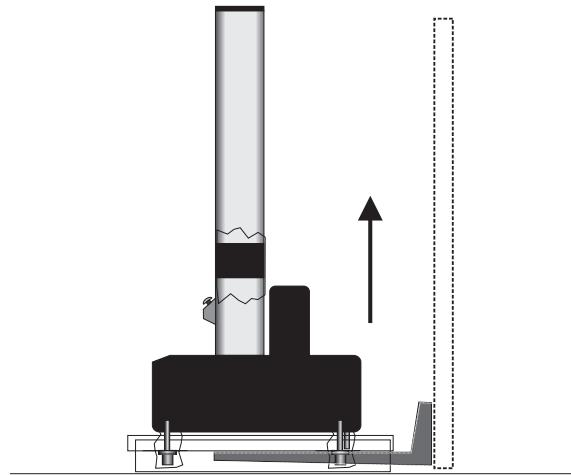

Figure 11. Lifting the Frame using the shipping skid
2. Carefully insert the forks under the shipping skid as shown in Figure 11 on page 64.